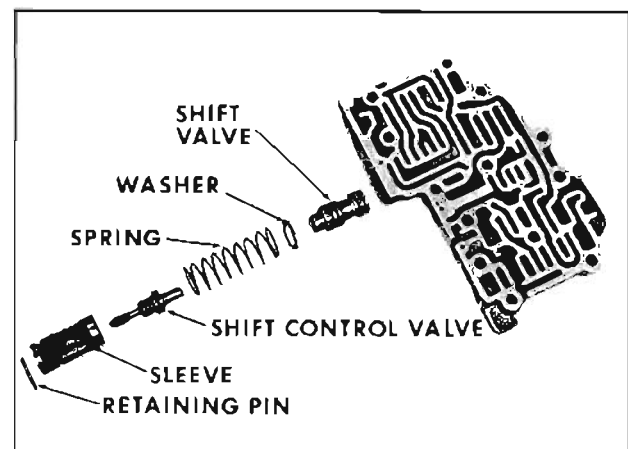

Fig. 6-313 Installing Shift Control Valve
3. Install shift valve, washer, spring, shift control valve and shift control valve sleeve. Depress shift control valve sleeve with thumb and install retaining pin. (Fig. 6-313)